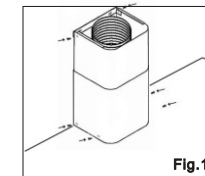

Fig.19
- 1. Adjust the height of the inner duct cover to the duct cover-mounting bracket. Secure the inner duct cover with two (4 x 8 mm) screws (not included) (Fig.19 )
- 2. Fasten out duct cover to plastic plate on the hood with four (4 x 8 mm) screws (not included) (Fig.19 )